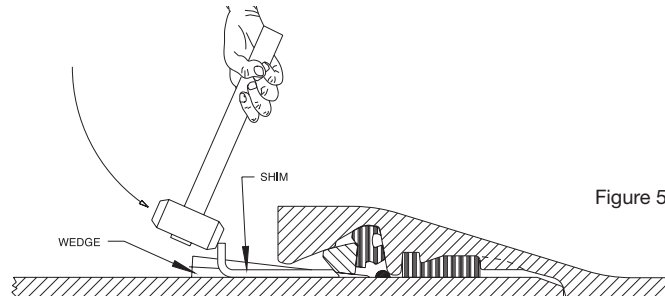

Figure 5
4. With a large hammer (such as a six pounder) vigorously drive one or two "L"-shaped shims under the locking segment until the ends of the shims firmly contact the spigot weld bead. (Fig. 5) Shims and wedges can be safely and firmly held against the pipe as they are hammered using a block of wood or a board. Safety precautions such as the wearing of safety glasses and keeping clear of the hammer during striking should always be taken to avoid injury.